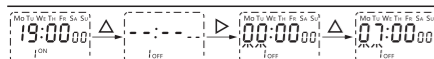

Figure 10 LCD display (set the first group of power off)
3.2.2.4.2 Press the "△" key to enter the timer setting state (1 OFF, the first time off). The setting is the same as 3.2.2.4.1, as shown in Figure 10. After setting is completed, press "OK" to save.